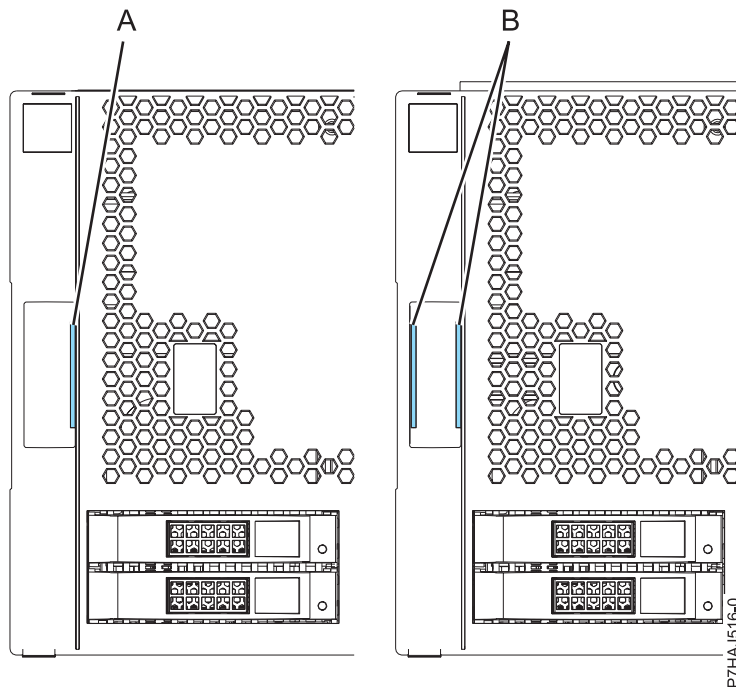

Figure 7. Identifying the older and newer covers
Note: The older covers that were shipped before 1 March 2011 can be identified by a single blue stripe (A) on the cover assembly latches. Newer covers that were shipped after 1 March 2011 have two blue stripes (B) on the cover assembly latches. See Figure 7.